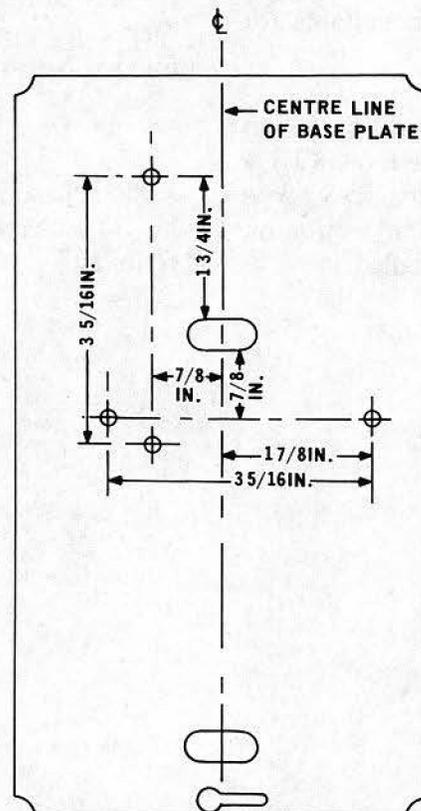

Fig. 14 - Early Production Baseplate (Wall Telephone)
4.03 To modify early production baseplates, drill two holes as shown in Fig. 14 using a No. 17 (0.173 inch) drill bit. If a conduit outlet box is not available, mount the telephone set with screw anchors, using the mounting holes at the top and bottom of the baseplate.